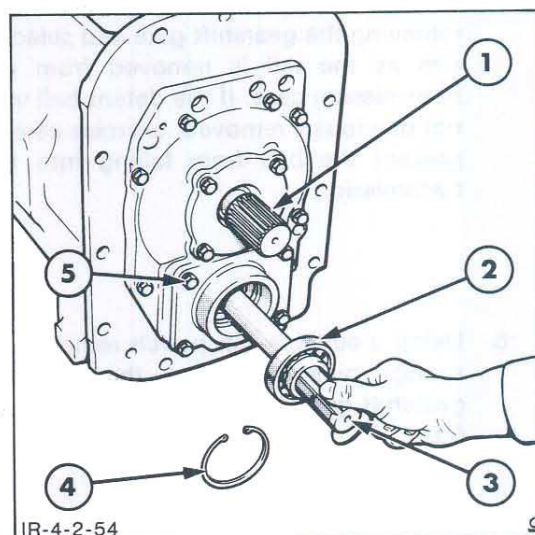

Figure 54
2. Using a suitable pair of snap ring pliers remove the internal snap ring retaining the P.T.O. shaft bearing, Figure 54. Withdraw the P.T.O. shaft and bearing as an assembly from the rear cover plate.